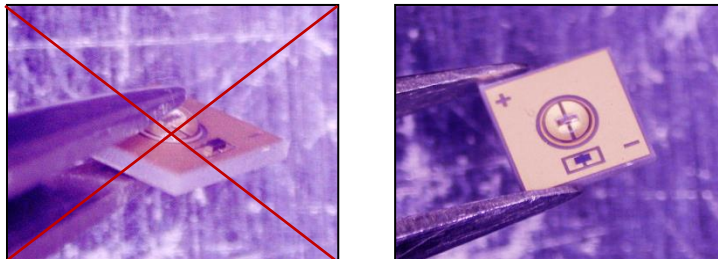

FIG 10. incorrect handling (left) and correct handling (right) of UVC LED Package
- Recommend holding the sidewalls of the LEDs (See Fig 10.)